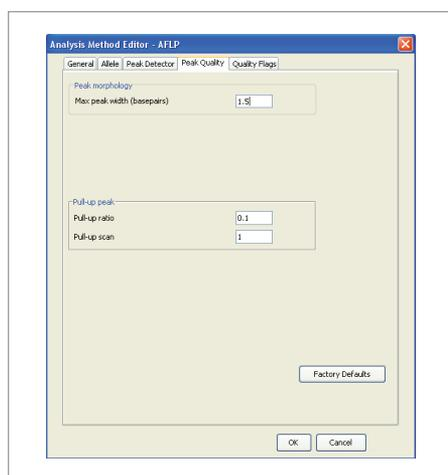

Figure 9. Configuring the Settings in the Peak Quality Tab.
16. Select the Peak Quality tab and configure the settings as shown in Figure 9.